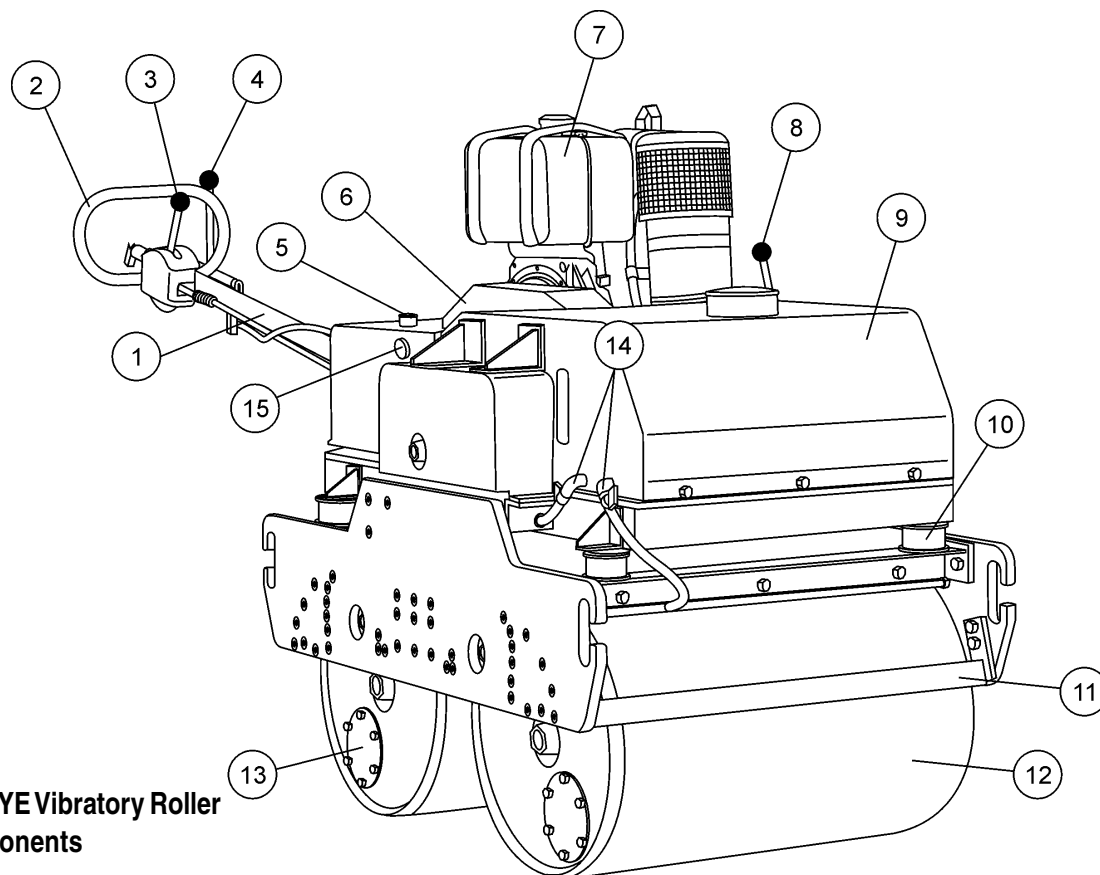

Figure 6. MDR-9DYE Vibratory Roller Components
Before starting the MDR-9DYE Vibratory Roller, identify and understand the function of the controls and components as indicated in Figure 6.
Figure 6 illustrates the location of the major components for the MDR-9D Vibratory Roller. The function of each component is described below:
1. Check travel and vibrator levers to make sure they are functioning properly (Figure 6).